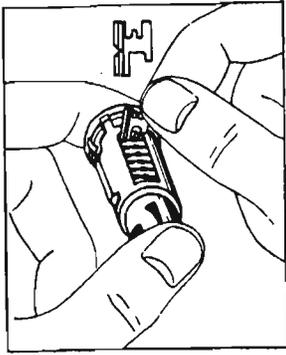

Fig. 1-14—Inserting tumblers.
1. Hold cylinder with head of cylinder away and, starting at the head of the cylinder, insert the tumblers in their proper slots in the order called for by the code; ribbed side toward you and long point down (fig. 1-14).